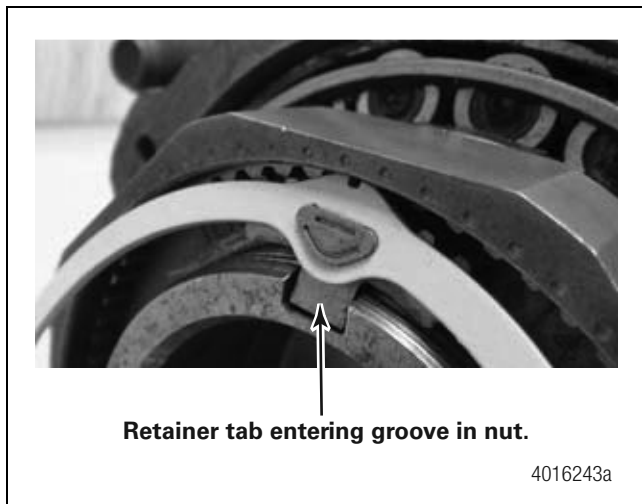
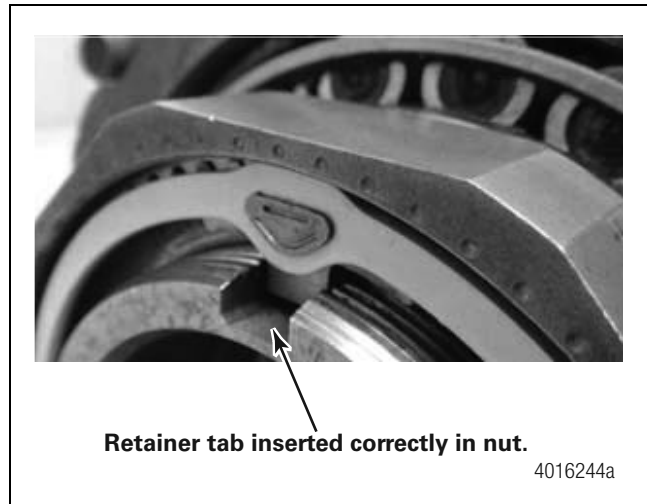

Figure 9
Figure 10
8. Install the retainer ring. First, install the EasyView® center tab of the retainer ring in the Temper-Loc nut, engaging the key in the keyway at the same time. Figure 9. Push in on each end finger tab, one at a time, to fit each tab into the nut groove. Figure 10.